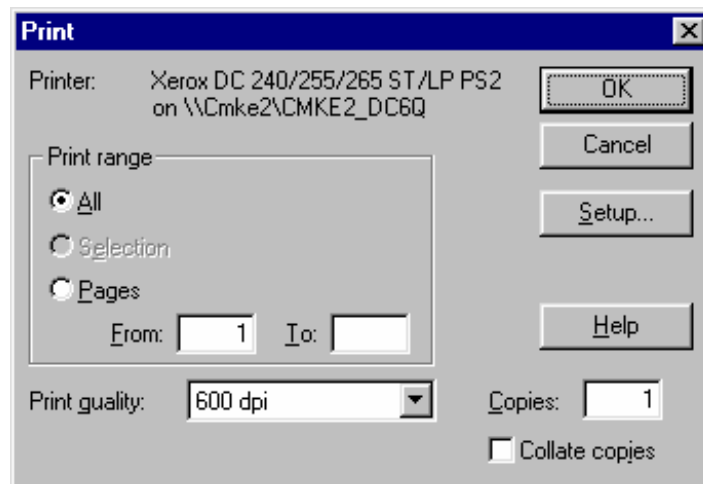

Figure D-6: Print Dialog Box
3. Click OK. The Print dialog box appears (Figure D-6).